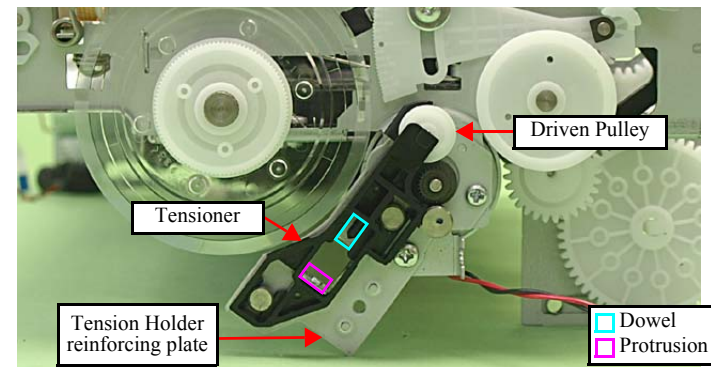

Figure 4-119. Removing the PF Motor (2)
- Insert the Compression Spring to the dowel of the Tensioner and attach it to the protrusion of the Tension Holder reinforcing plate. (See Fig. 4-119.)